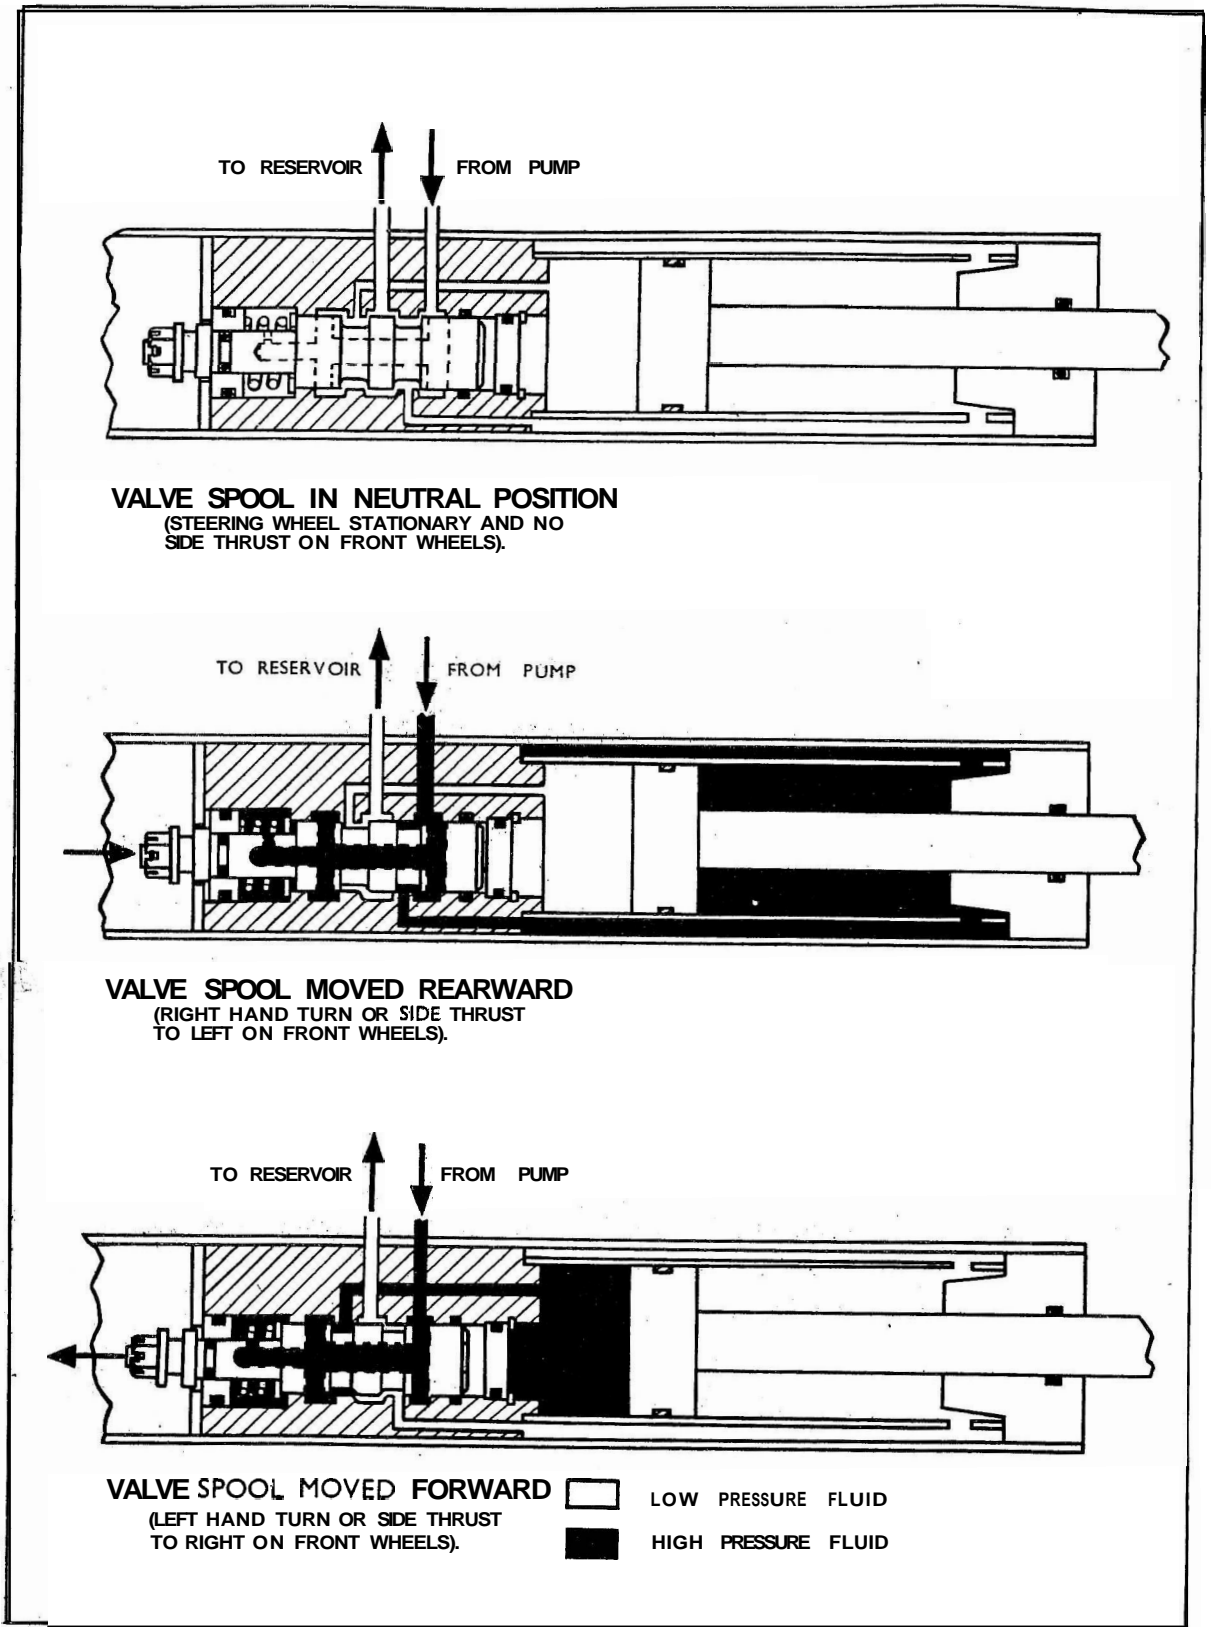
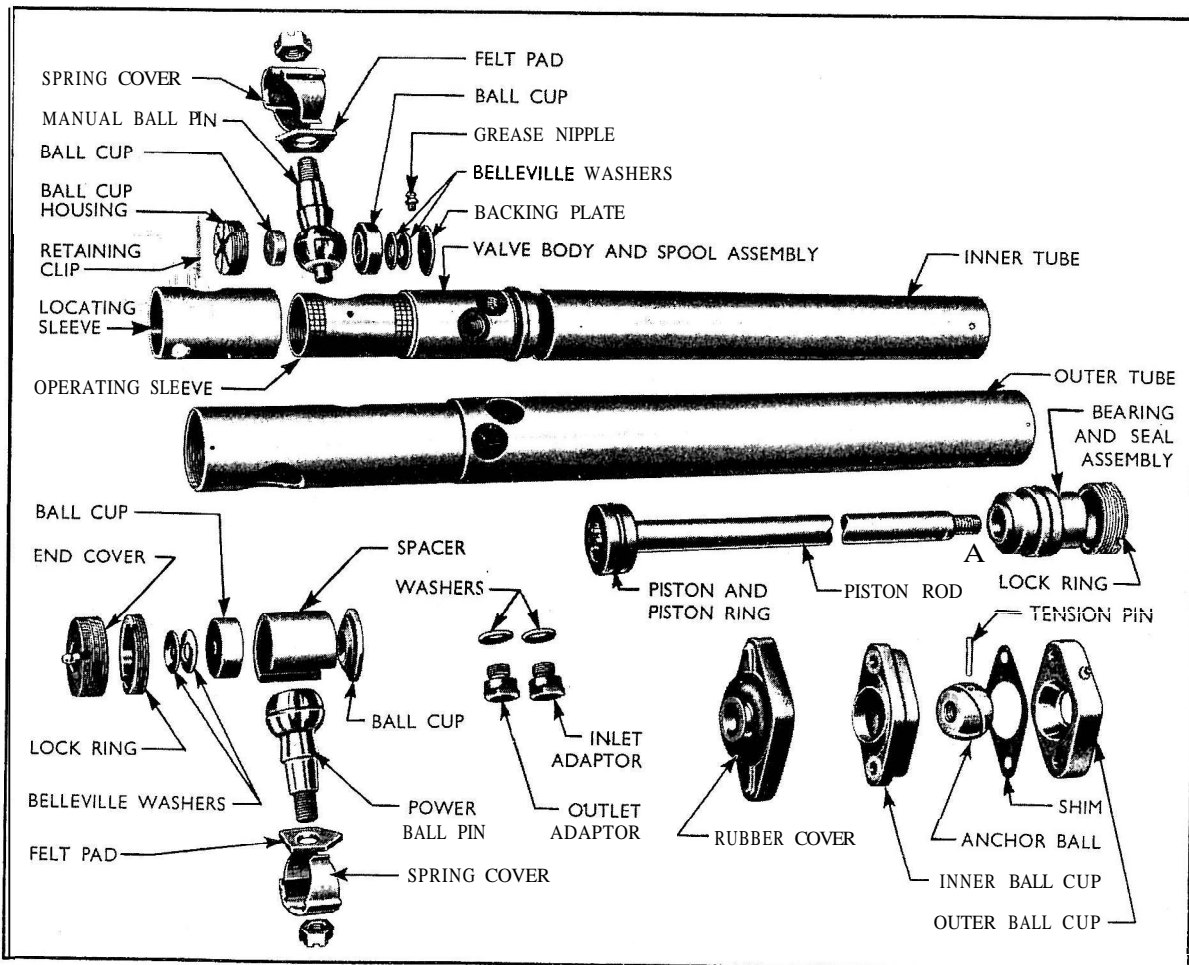

Fig. 4
Fig. 5
1 3/4 in. (44.45 mm.) compared with 2 in. (50.80 mm.) for the four-wheeled tractor. The smaller diameter cylinder obviates the necessity for the locating collar fitted to the end of the valve body for power cylinders with the 2 in. (50.80 mm.) bore (see Fig. 9) and also makes the tricycle tractor power cylinder readily recognisable since its outer tube is the same outside diameter throughout its length, not stepped as is the power cylinder used with the four-wheeled tractor. (See Fig. 5.) In addition, the position of one of the grease nipples, with associated grease passages in the valve body, differs on the two types of power cylinder, but, despite the constructional variations mentioned, servicing procedure is virtually the same, with some parts directly interchangeable and both power cylinders operate on the same principle as described in the following.
Manual effort from the steering box is directed to the control valve spool by means of the manual ball pin, and power assistance from the ram is directed to the steered wheels by means of the power ball pin. (Fig. 5.) The control valve spool is held in the neutral (central) position by means of a pre-compressed spring and by the hydraulic forces acting on the reaction ring and washer. (See Figs. 4 and 9.)
As long as the steering wheel is not being turned and there is no side thrust acting on the front wheels, the spool remains central and the oil circulates freely on open circuit from the pump, through the control valve and back to the reservoir as shown in Fig. 4. There being no resistance to flow, no pressure build-up occurs.
It is important to note that the driver always steers against a resistance which is derived from the spring pre-load, plus the pressure build-up on the reaction ring and washer. Since this pressure is dependent on the pressure of the oil pushing on the piston it is proportional to the required steering force, thereby giving the driver the necessary "feel of the road." (See Fig. 4.)
It must be born in mind that it is not necessary to hold the steering wheel hard over when no further steering movement of the front wheels in the required direction is possible, and should this condition be encountered release the pressure from the steering wheel immediately. This will allow the control valve spool in the power cylinder to move into the central or neutral position so that the oil can then circulate freely on open circuit (see Fig. 4); the steering position of the front wheels will remain unaltered, i.e. they will remain in contact with whatever prevents further steering movement in the direction the steering wheel is turned.
the central or neutral position. In this position, oil from the pump flows past the valve spool lands and returns to the reservoir through the port in the control valve body. (See Fig. 4.)
When the steering wheel is first turned to the left the steering drag link exerts a force on the control valve spool which tends to move the spool forward. When the spool is in this position the oil passage leading to the rear of the power cylinder is closed to pump pressure, but is opened to the reservoir. The passage leading to the forward end of the cylinder is opened to pump pressure. As the oil from the pump flows into the power cylinder the pressure increases until it is sufficient to force the cylinder and steering arm forward, thus providing the power assistance for the turn. The oil displaced from the rear of the power cylinder flows back through the control valve to the reservoir. (See Fig. 4.)
When making a right turn the steering drag link moves the control valve spool rearward. The movement of the valve spool opens the oil pressure supply passage in the valve body, which leads to the rear end of the power cylinder. As the pressure in the system increases the cylinder and steering spindle arm move rearward, thus providing the power assistance for the right turn. The oil displaced from the front end of the power cylinder flows back through the control valve to the oil reservoir. (See Fig. 4.)
5. Remove the rubber abutment cover, followed by the two nuts and bolts securing the piston rod anchor ball cups to the abutment bracket, when the outer cup and shims will be free of the power cylinder (see Fig. 5), and lift the power cylinder from the tractor.